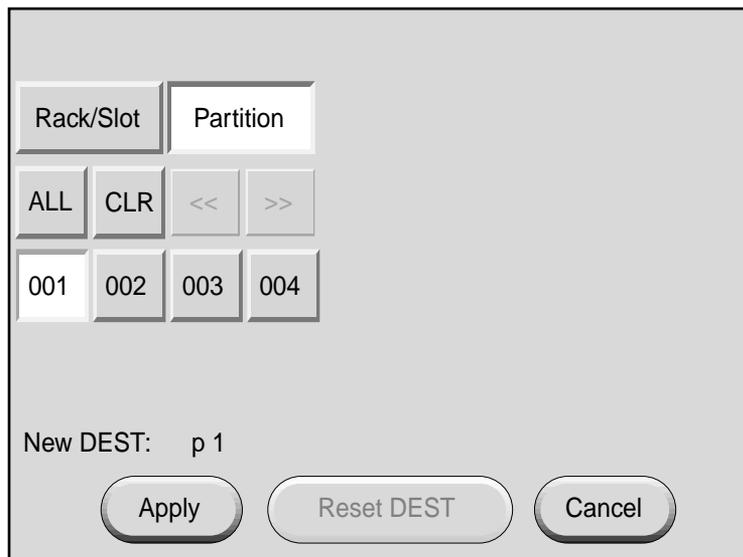

Figure 1-21 Selecting Individual Partition
5. You can select all partitions by selecting **ALL** on the partition selection window, or you can select a single partition or multiple partitions by selecting the individual partition numbers. Figure 1-21 shows partition **001** selected.